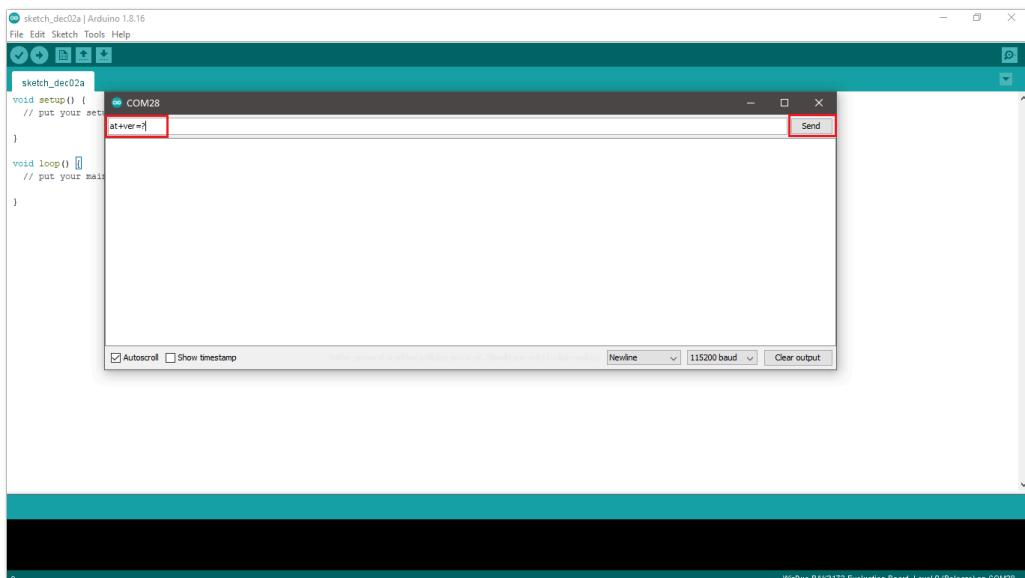

Figure 15: Send AT command
6. If the connection is successful, you can send AT Commands to RAK3172-SiP. For example: To check the RUI version, type `AT+VER=?` on the text area, then click on the **Send** button, as shown in **Figure 15**.